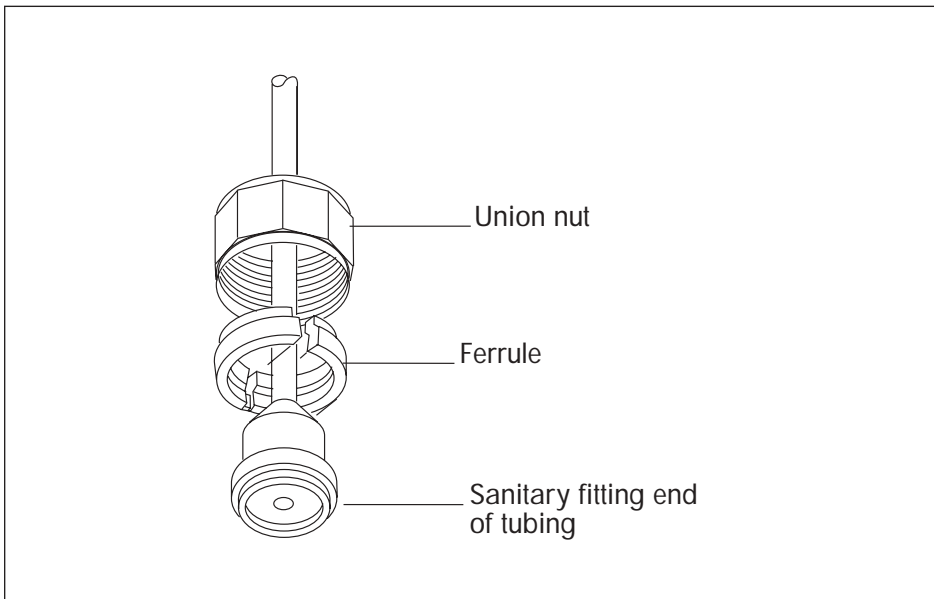

Figure 10. Sequence of Ferrule and Union Nut on Tubing
- a. Slide the union nut and the ferrule over the fitting end of the tubing in the sequence and orientation shown in Figure 10.